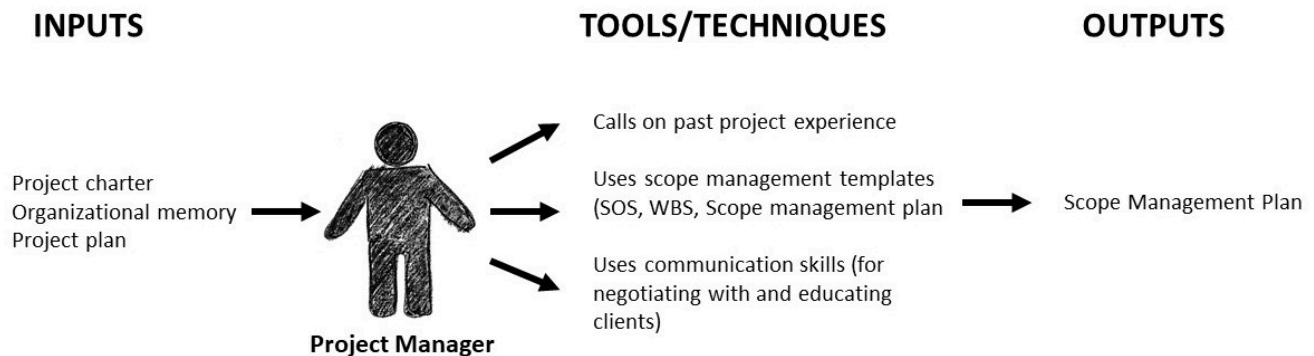

Figure 8.1: Scope input-output. [\[Image description\]](#)
- Figure 8.1 Scope Management IO © Flaming Sevens adapted by Josie Gray is licensed under a Public Domain license